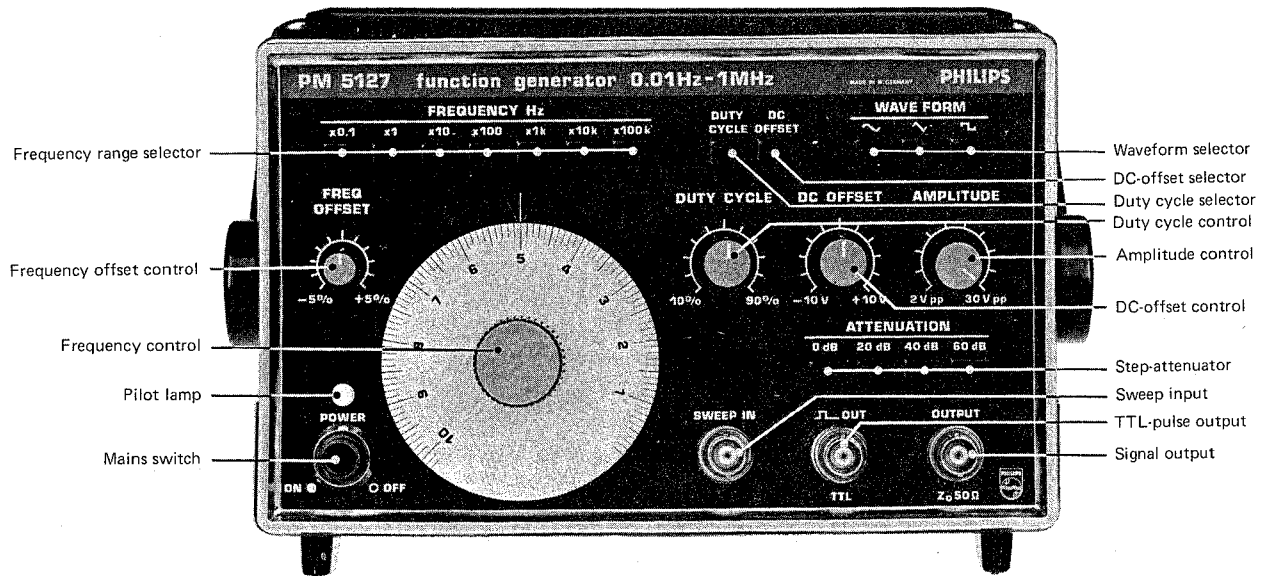

Fig. 3. Front view, controls and connectors
2.1.5. Controls and sockets (see Fig. 3)